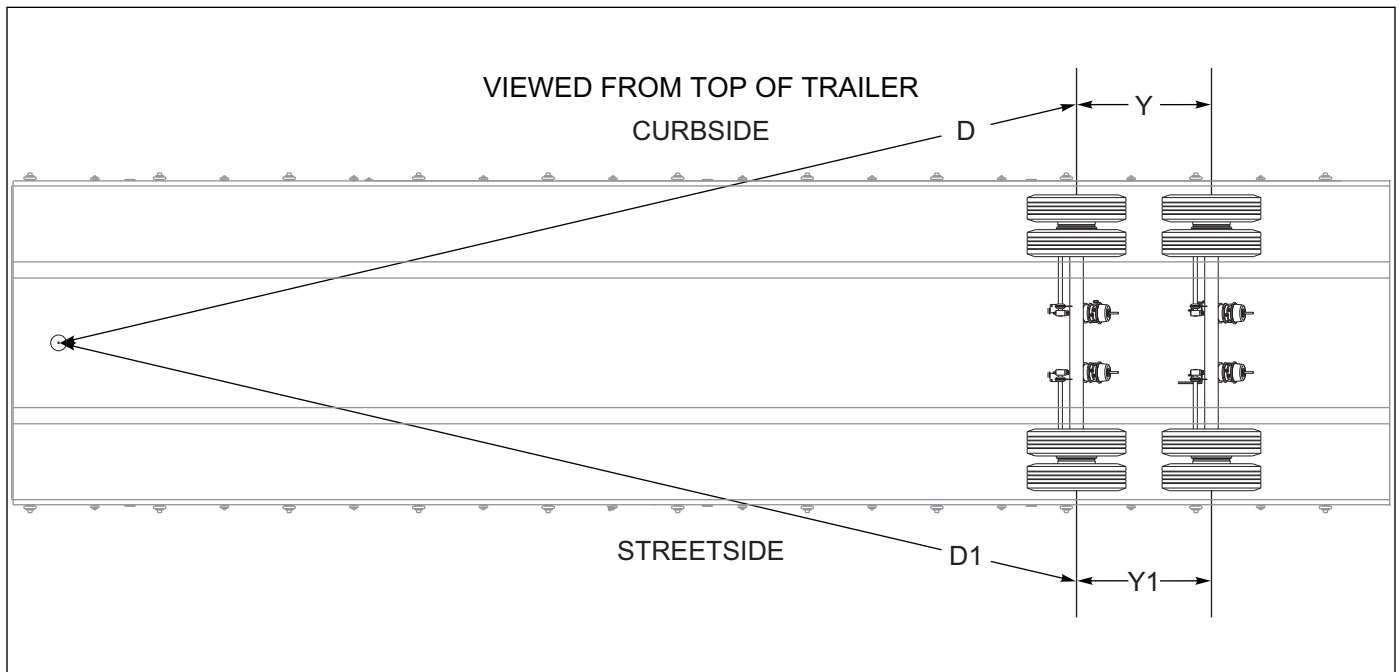

Figure 4-12: Checking Axle Alignment
5. Measure **Curbside (D)** from the plumb bob to the 1st axle center. Measure **Streetside (D1)** from the plumb bob to the 1st axle center. **Curbside (D)** should be about 1/8 in (3.18 mm) shorter than **Streetside (D1)**, See Figure 4-12.
2. Measure from 1st axle center to the trailer 2nd axle center on the curbside then the streetside. Measurements should be the same. Use (Y) and (Y1) as reference, **See Figure 4-12.**
2. Measure from flip assembly axle center to the trailer rear axle center on the curbside then the streetside. Measurements should be the same. Use (Y) and (Y1) as reference, **See Figure 4-12.**